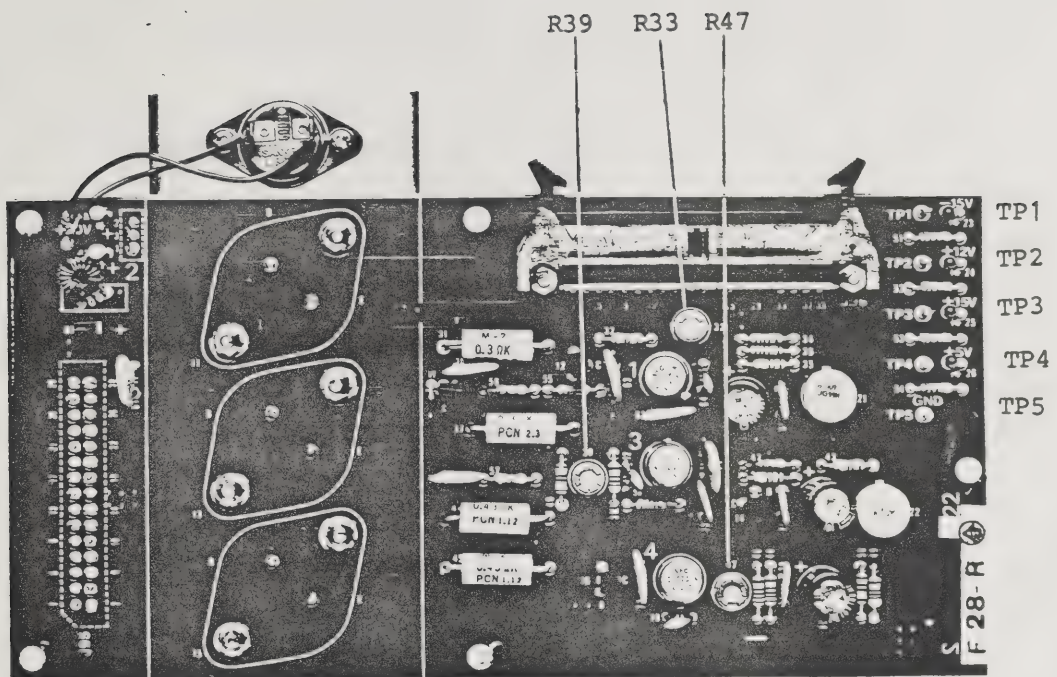

Fig. 11-37 RF Power (BLF-010370) Adjustment
- (1) Set the POWER switch to ON, and check the supply voltage at each test point. Figure 11-37 shows the location of the test points and adjustments.